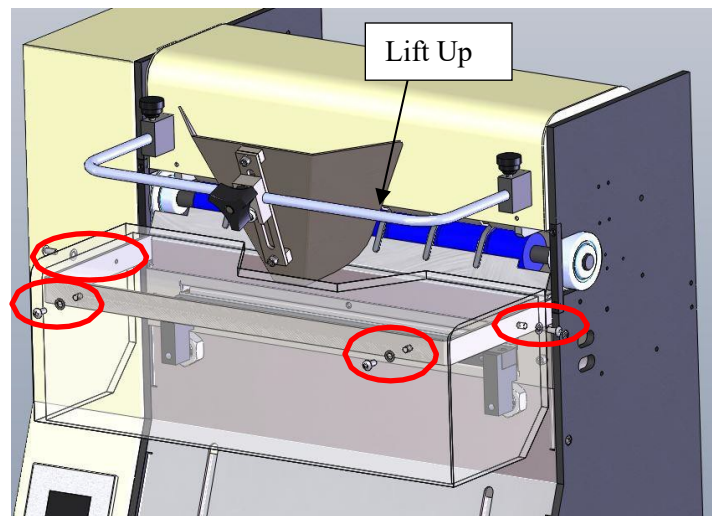

Figure 3-2
When the PTFE Anti-Stick sheet has been exhausted, it will become loose from the upper rod and will require replacement. There are three phases when replacing the PTFE Anti-Stick sheet, Phase 1: Disassembling parts of the machine to get to the PTFE Anti-Stick Bracket, Phase 2: Changing the material, and Phase 3: Reassembling the machine parts taken off to get to the bracket. Use Figure 3-2,
4. Remove four screws from the guard assembly and remove the Lexan guard, see Figure 3-2.